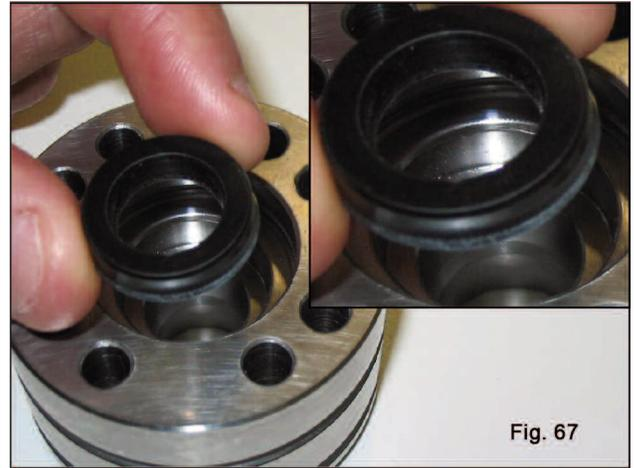
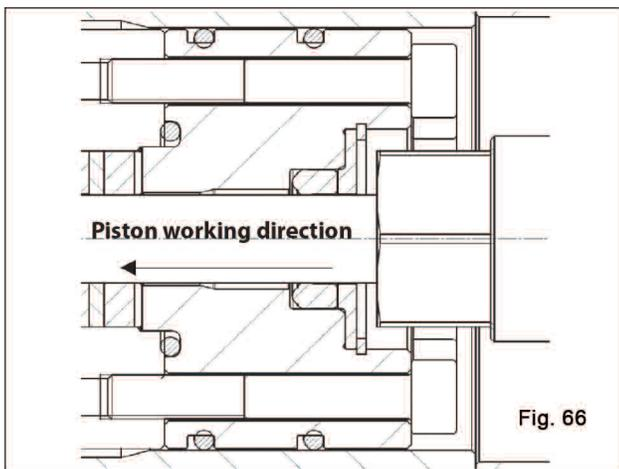

Fig. 67
Fig. 66
**!** The LP seal must be inserted into the liner with the sealing lip in the plunger working direction as shown in fig. 66 and fig. 67, slightly lubricating the external diameter with silicone grease Type OKS 1110.